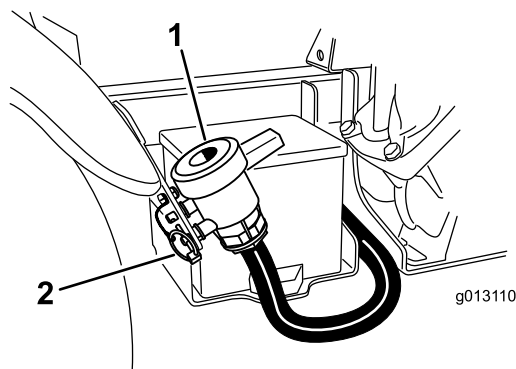

Figure 27
2. Locate the tank drain valve on the right side of the machine (Figure 27). The valve is on the fender bracket next to the battery.